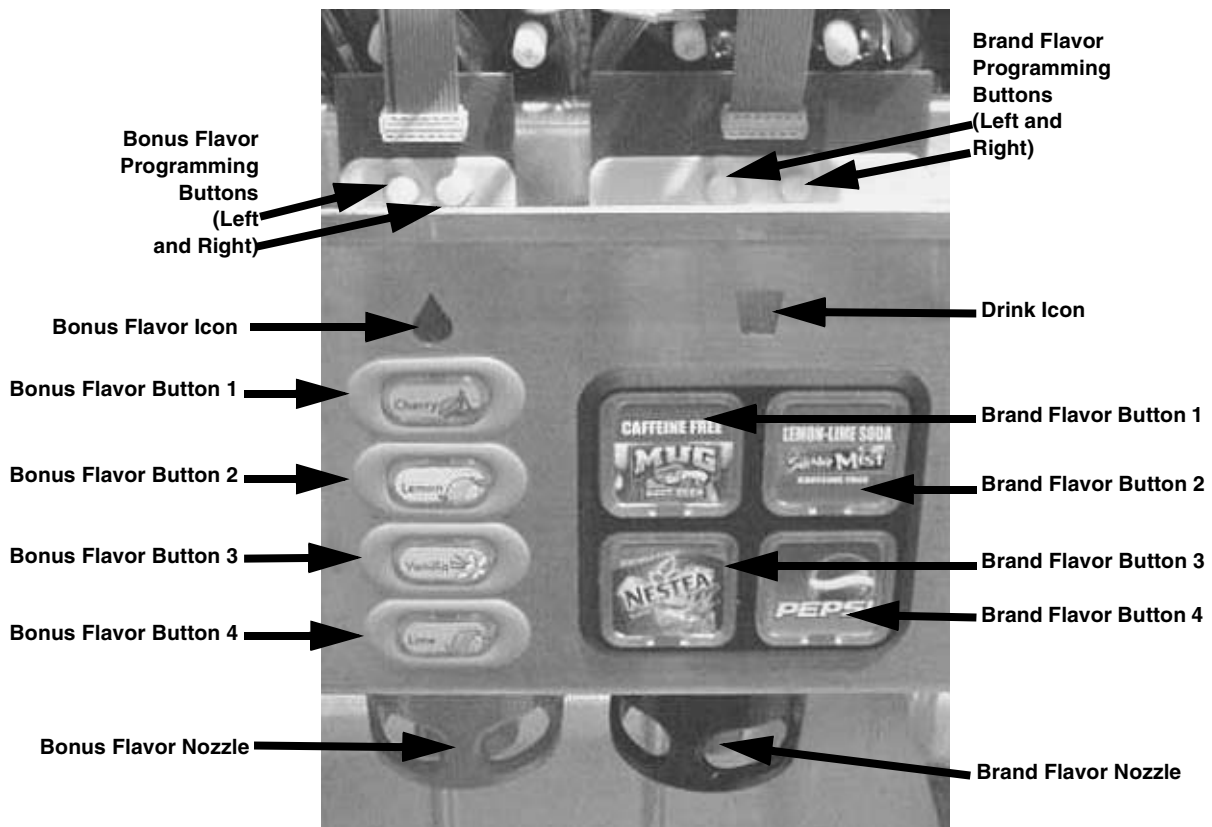

FIGURE 3
To enter the programming mode, press and hold the two program buttons (see FIGURE 3) at the top of the keypad for approximately 4 seconds. All keypad LEDs will flash off for approximately 1 second to indicate the start of the programming mode.
1. Enter programming mode for the valve block by simultaneously pressing and holding both programming buttons for 4 seconds (see FIGURE 3). The LED's for flavors 1-4 should flash off and then back on. The drink icon should turn off.